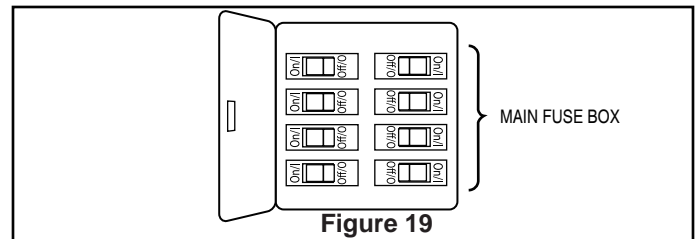

Figure 19
1. Restore electrical power to the outlet box by turning the electricity on at the main fuse box. (Figure 19)